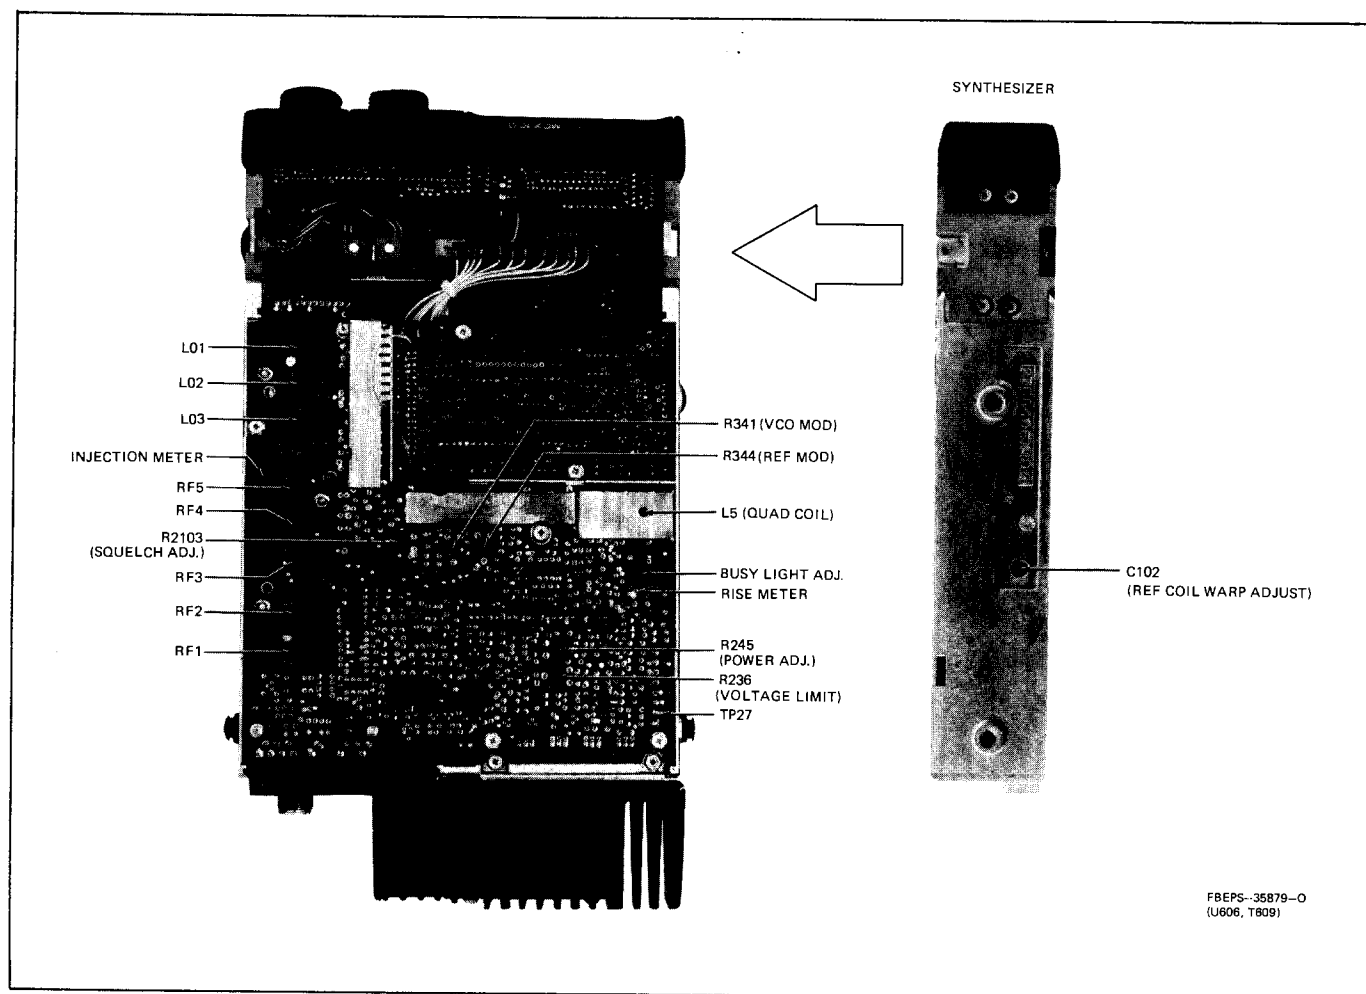

Figure 1. DVP MCX100 Radio Alignment Test Points
Refer to Figure 1 which shows the various test points which are to be referred to in the procedure. Also refer to the pertinent schematic diagrams and circuit board details located in this manual
Step 9. Connect a high input-impedance dc voltmeter to the INJ METER point (Figure 1) and set it to a low dc voltage range. Adjust coils L02, L01, and L03 (in this order) until a maximum dc voltage level (typically between 2.1 and 3.5 V dc) is obtained. Repeat the step until no further increase in dc voltage level can be obtained.
will provide an on-frequency, unmodulated signal that is sufficiently strong to quiet the receiver. Connect a dc voltmeter to the RISE MTR test point (Figure 1) and set it to a low dc voltage range. Adjust coils RF1, RF2, RF3, RF4, and RF5 (in this order) until a maximum dc voltage indication is obtained. Adjust the signal generator, as required, to maintain the dc voltage between 2.5 and 3.5 V dc during tune-up. Repeat the step until no further increase in dc voltage level can be obtained. Proceed to the Receiver Adjustments Procedure paragraph in this section of the manual.